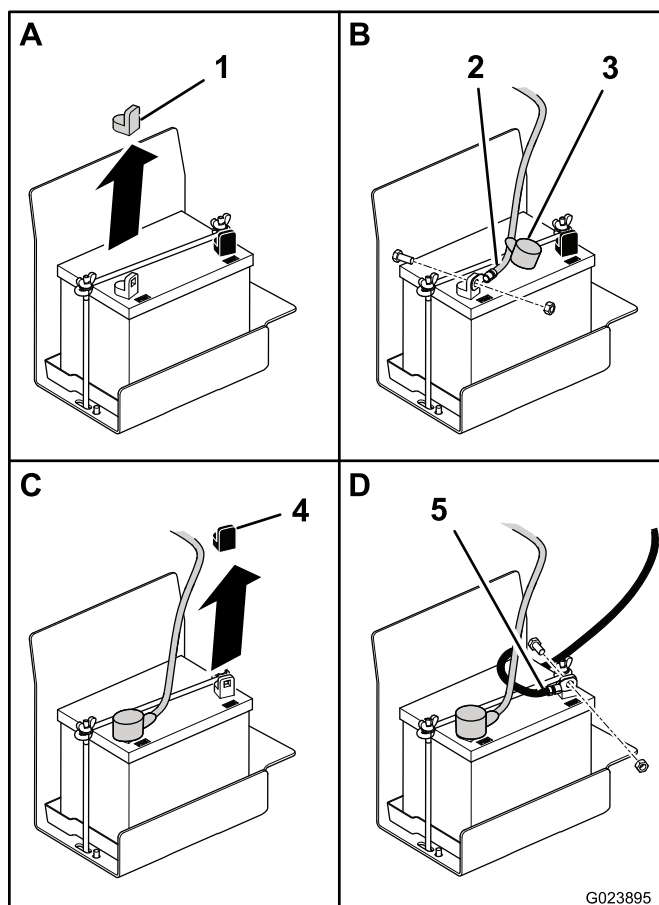

Figure 5
2. Remove the red plastic cover from the positive battery terminal (Figure 5).